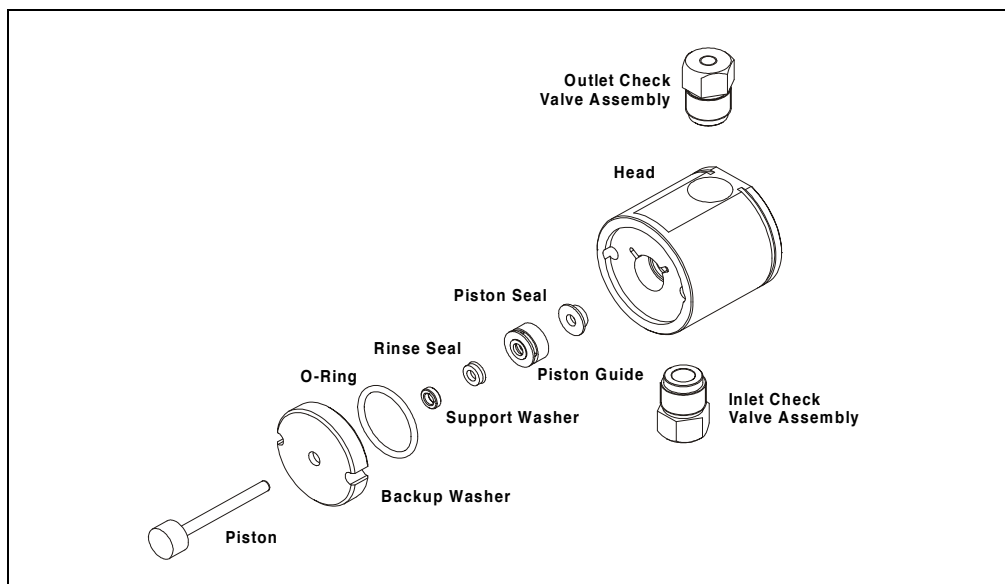

Figure 5-3. Pump Head Assembly
5. Place the head (front end down) on a clean work surface and lift off the backup washer to expose the piston guide (see Figures 5-3 and 5-4).